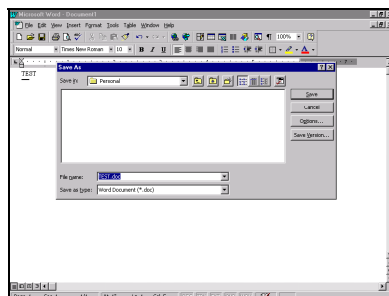

FIGURE VI.3
- 3) The “Save As” dialog box will open. (see figure VI.3)